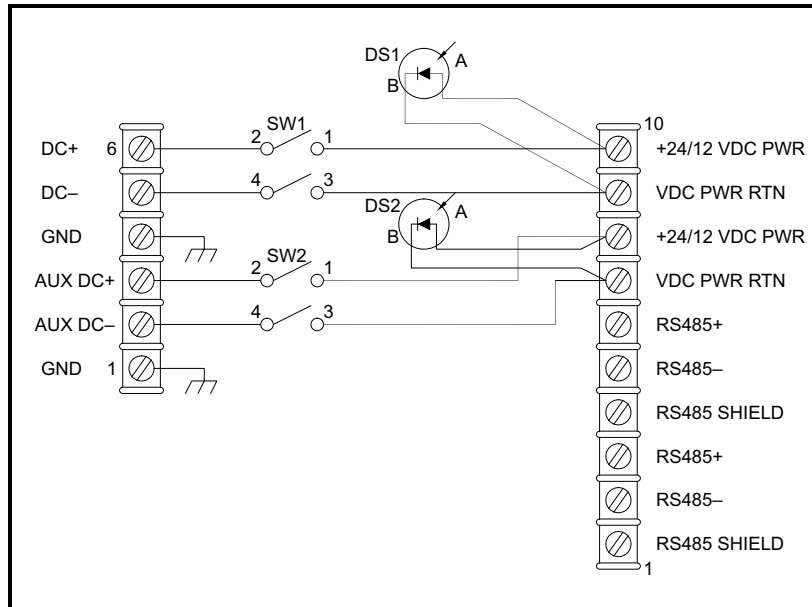
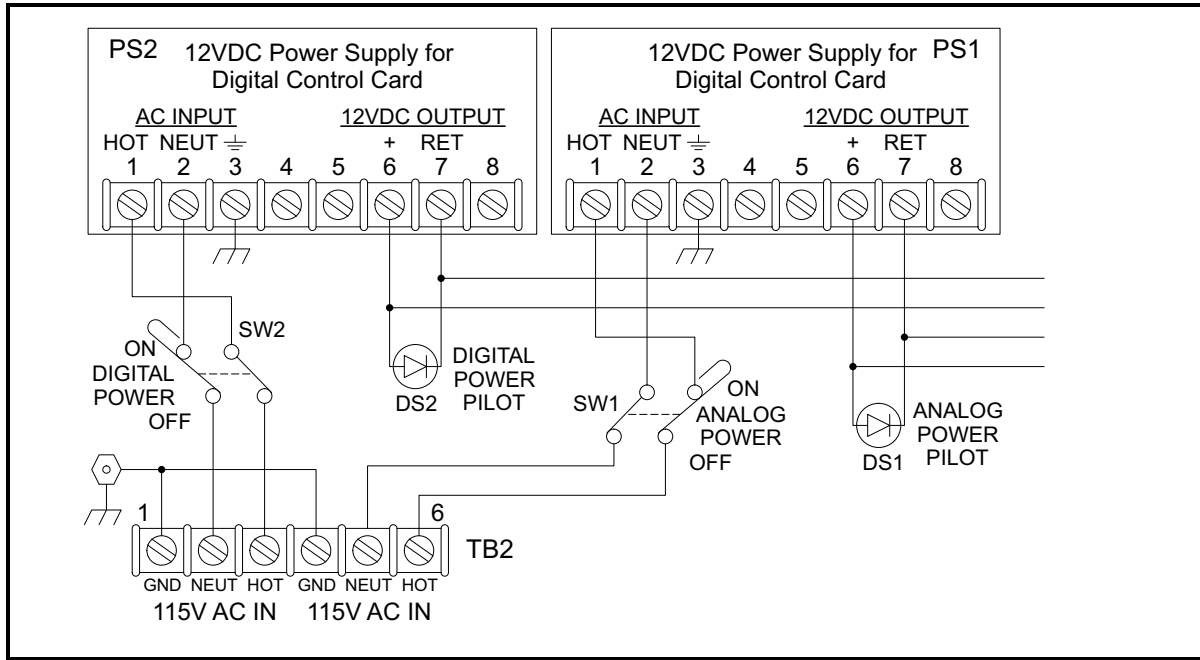

Figure 12: Wiring for Internal Power Supply
Figure 13: Wiring for External Power Supply
**WARNING!** Do not connect the 115 or 230 VAC cord to the terminal strip or damage will result. See Figure 12 below and Figure 13 on page 18, Netpac Wiring Diagrams.
If your power supply is external to Netpac, connect the power supply to the DC terminal strip, screws 4, 5, and 6; screw 4 is grounded. If you have two external supplies, connect the second to screws 1, 2 and 3 (see Figure 13 on page 18).